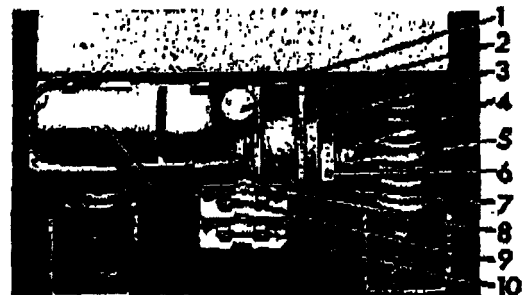

Figure 15 (8024471) Driving Elements
Refer to Figure 15. On breakers with "C" suffix, a set of protecting fuses (10) are mounted on the front of the breaker. These fuses are the primary protective devices for the closing control circuit on those breakers that are used in metal-